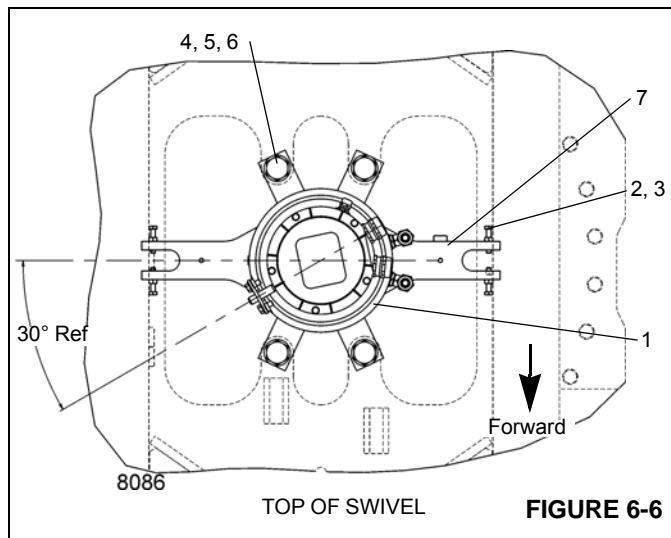

FIGURE 6-6
3. Ensure the threaded hole on the bottom of the electrical swivel base is aligned with the mounting hole in the plate on the water swivel case. Install the capscrew through the hole in the plate and install the jam nut. Screw the capscrew into the hole in the electrical swivel base until the capscrew head is approximately 6.0 mm (0.23 in) from the bracket. Tighten the nut against the electrical swivel (Figure 6-6).